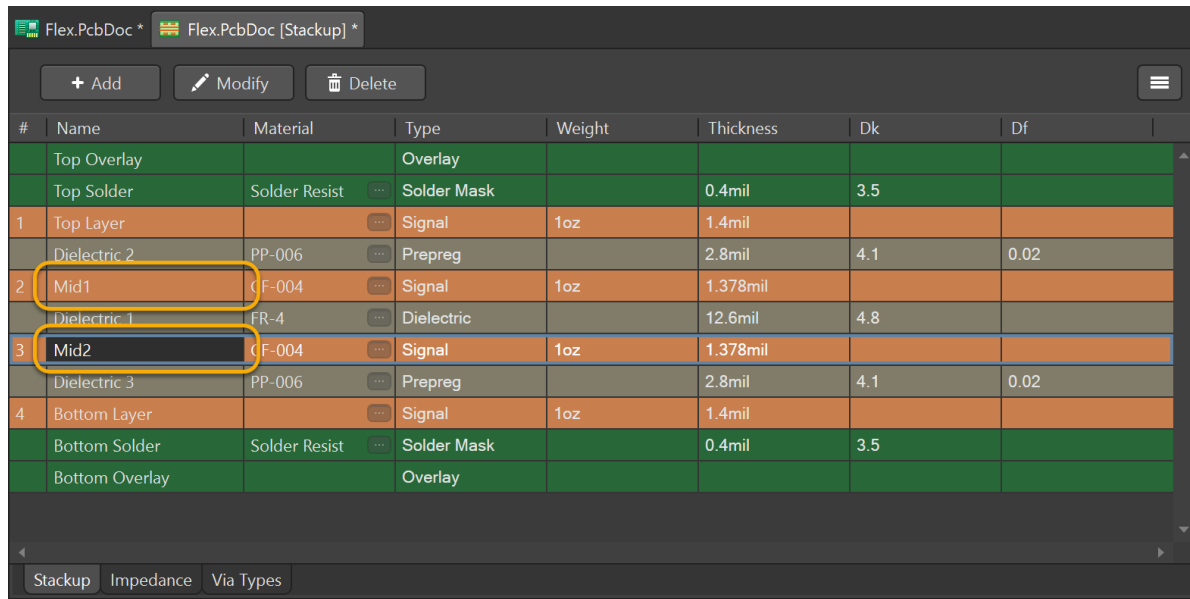

Figure 4. Layer renaming
10. Double-click on the Layer 1 cell to rename it to Mid 1 as shown in Figure 4.